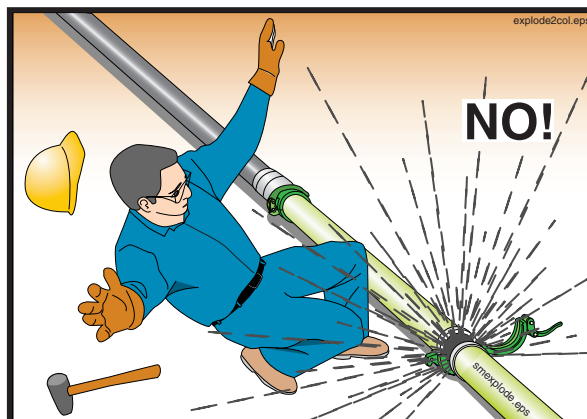

Figure 74
16.15 **⚠ WARNING** Expulsion hazard! (See Figure 74.) Never open a pipeline that is under pressure. The pump must be run in reverse for at least two strokes and then stopped before opening a pipeline. If you don't know how to reverse the pump, have the operator do it. If the pipeline is pressurized with air, do not open it. The operator is responsible for knowing how to safely release the air pressure.